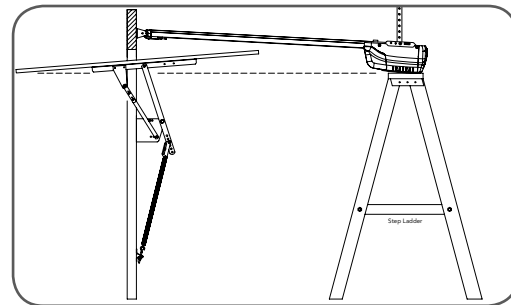

Fig 17
- Rest the opener on the top edge of the door with end of the C-Rail against the wall (Fig. 17).
- Support the drive unit level with the lowest point of the open door (Fig. 17).